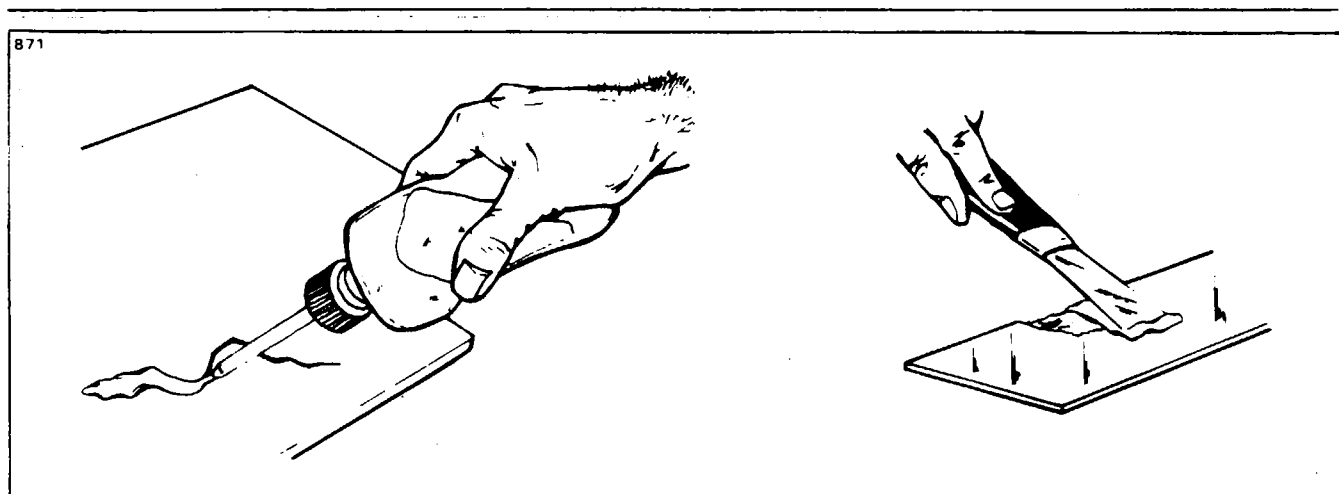

Figure 4-28. Deep Scratches, Shallow Nicks and Small Holes
c. Deep Scratches, Shallow Nicks and Small Holes: (Less than 1 inch in diameter.) (Refer to Figure 4-28.)